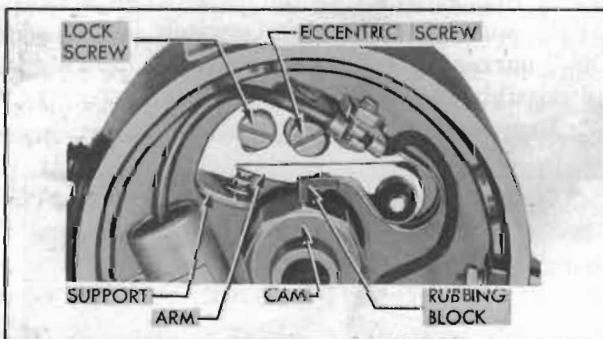

Figure 10-64—Contact Point Adjustment
6. Crank engine with starter switch and note indicator reading. Indicator reading (point opening) should not be less than $.0125''$ nor more than $.0175''$. If reading is beyond either limit, slightly loosen contact support lock screw and turn eccentric screw to open or close point as required, then tighten support lock screw. See figure 10-64. NOTE: *Since point opening decreases as rubbing block wears, always set new points as close to the high limit as possible.*
Use a clean, flat feeler gauge $.015''$ thick. With rubbing block on highest point of cam lobe adjust point opening (fig. 10-64) until feeler gauge goes between contact points with a very light drag. Use care to hold gauge exactly in line with opening to get an accurate measurement.